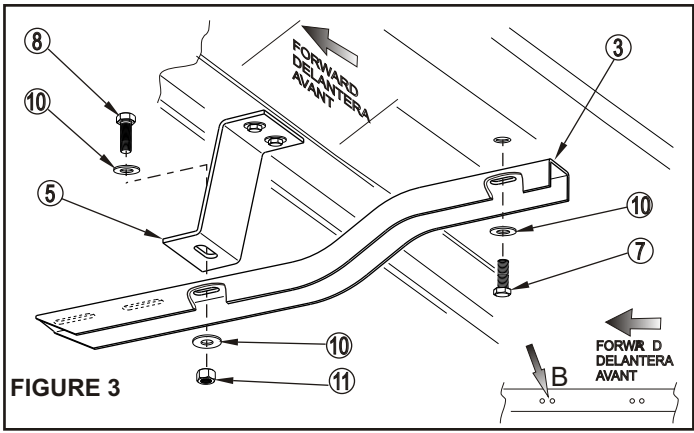

FIGURE 3
- STEP 3.** Attach middle front and middle rear brackets as shown (See Figure 3 and 4).